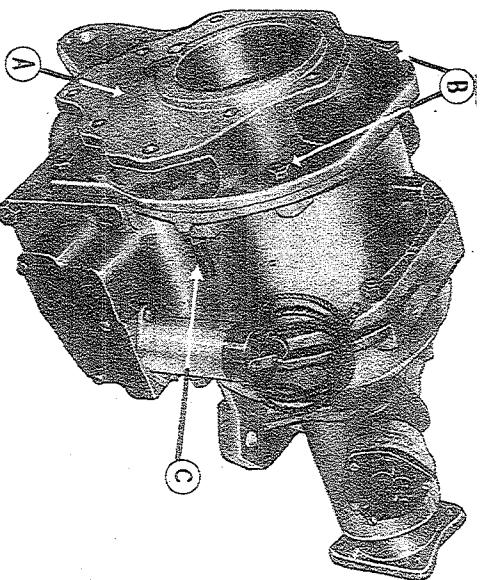

Fig. 19. Assembled overdrive unit
2. Remove the adaptor plate A which forms the front cover of the unit, and is fixed by four short studs B screwed into the overdrive casing, and two long ones C screwed into the adaptor plate (Fig. 19).